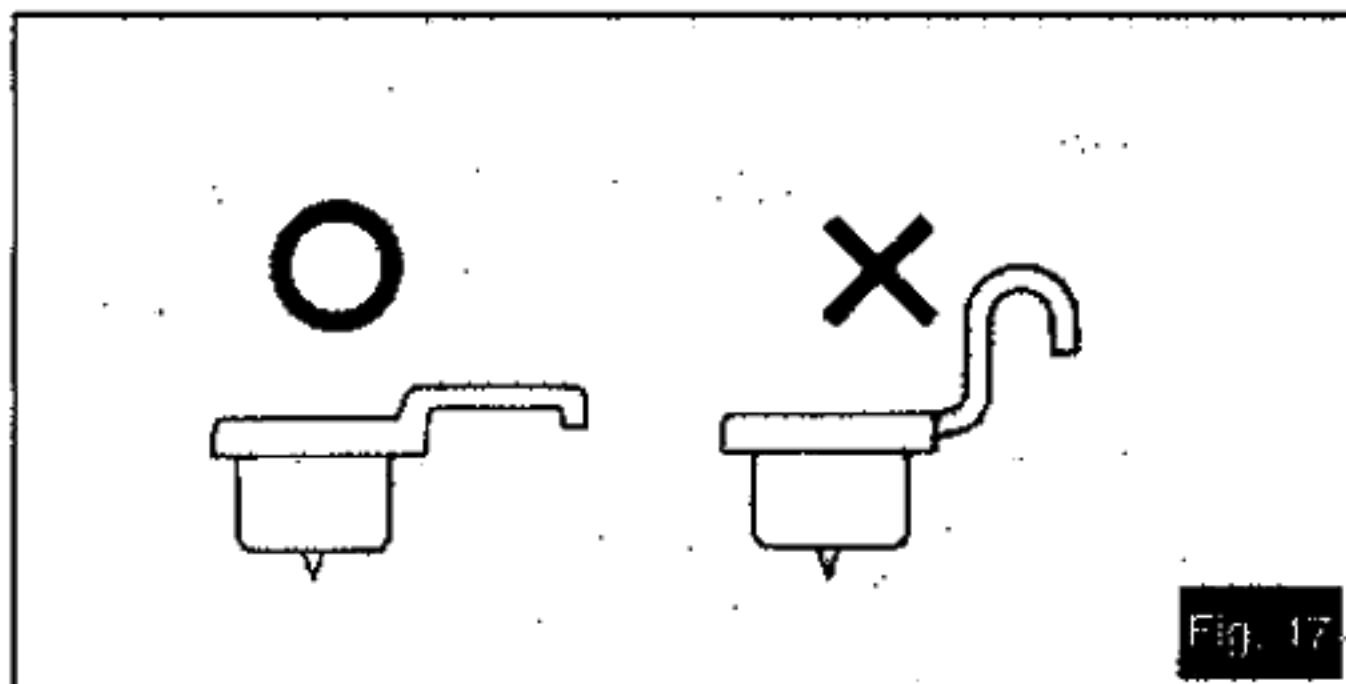

Fig. 17
② Wipe the dust cover and turntable base with a soft, dry cloth.
③ When you use other headshells, be careful about your choice. (See Fig. 17.)